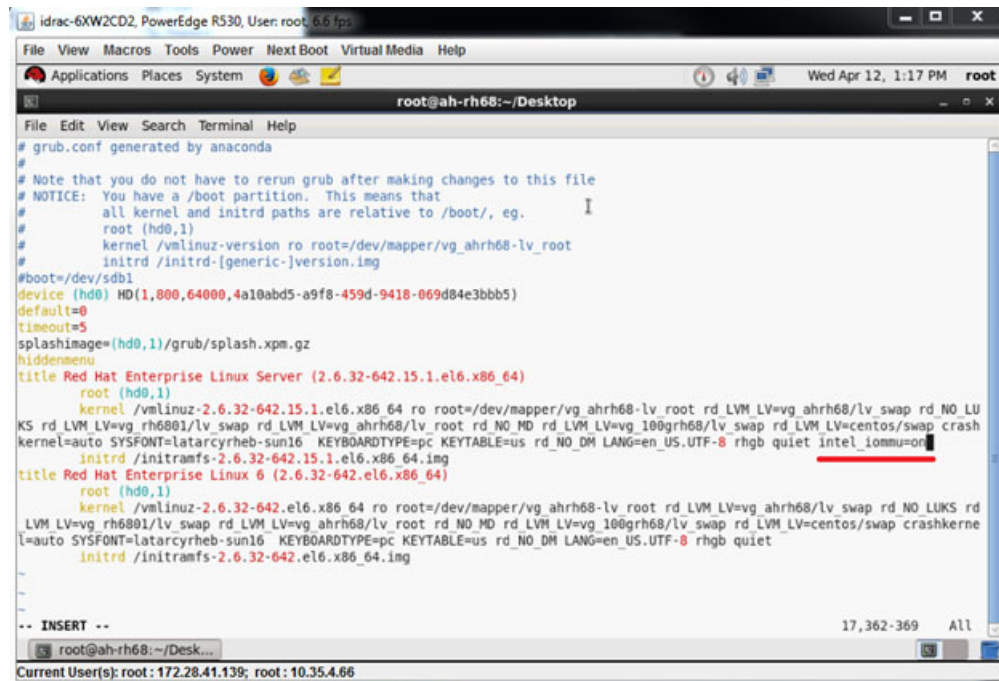

Figure 12-10. Editing the grub.conf File for SR-IOV
- a. Open the `grub.conf` file and configure the `iommu` parameter as shown in Figure 12-10. (For details, see “Enabling IOMMU for SR-IOV in UEFI-based Linux OS Installations” on page 244.)